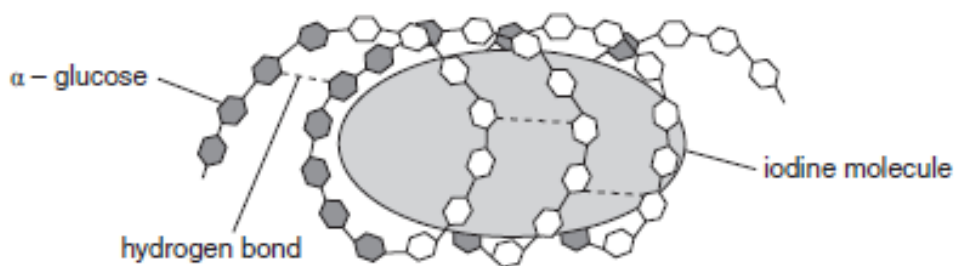

Fig. 2.1
- 2 Fig. 2.1 shows part of an **amylose** molecule. This is an unbranched form of starch.
- (iii) Using the information in Fig. 2.1, suggest what would happen to the iodine-amylose complex if the solution was heated to 60 °C.